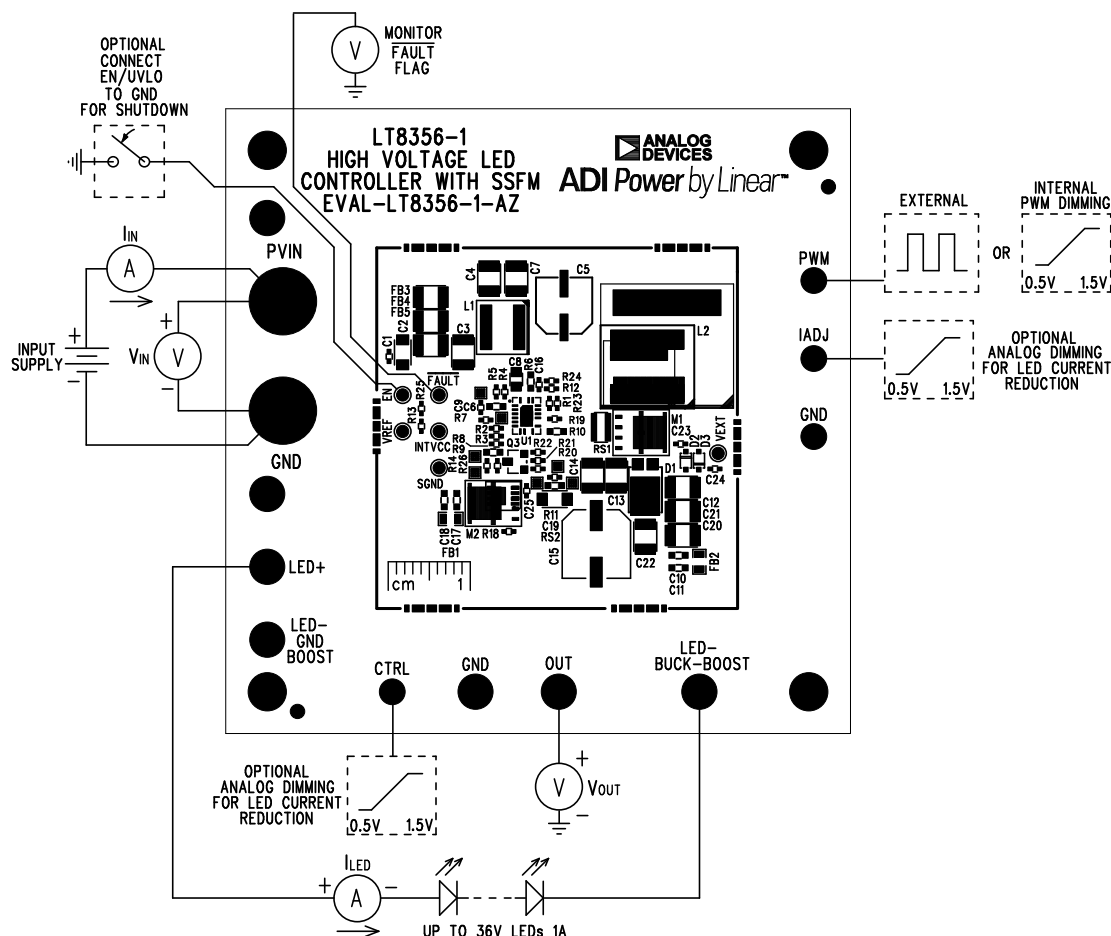

Figure 1. Setup Drawing for EVAL-LT8356-1-AZ as Buck-Boost Mode LED Driver (*See Boost LED Driver Setup Section for More Information on Boost-Only Topology)
1. With power off, connect a string of LEDs that will run with forward voltage less than or equal to 36V (at 1A) to the LED+ and LED- (buck-boost) turrets on the PCB as shown in Figure 1.